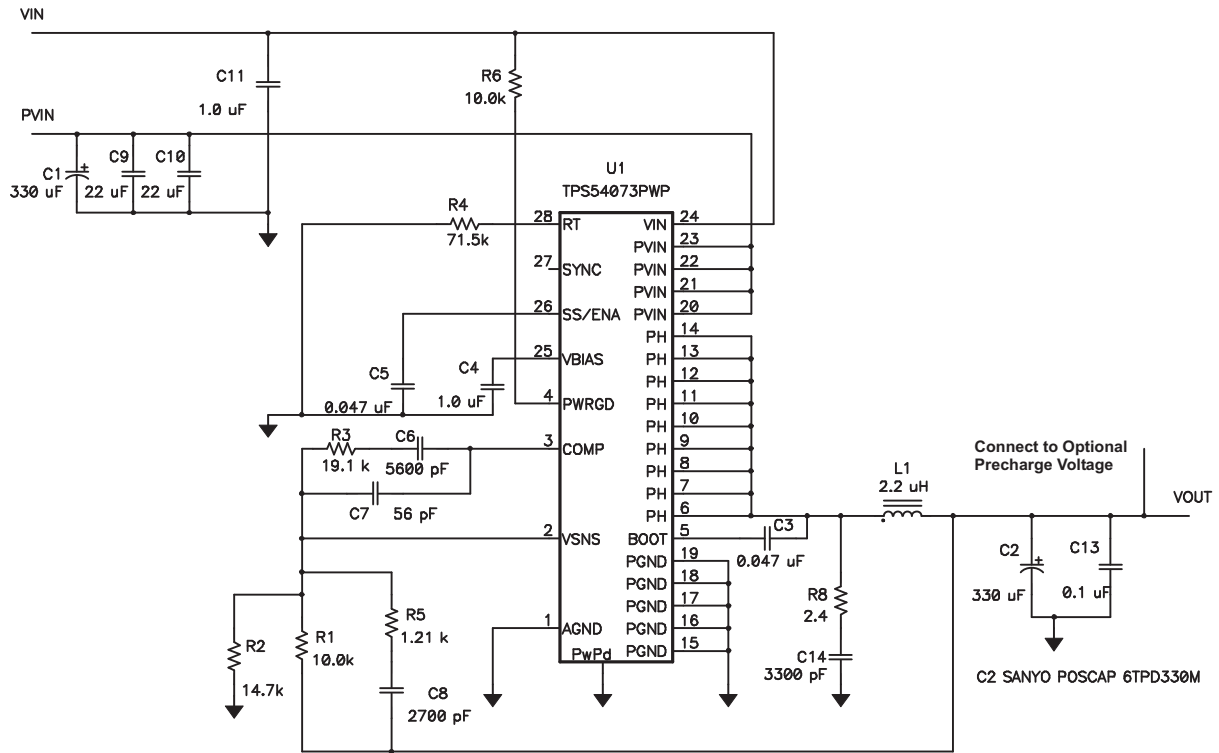

Figure 12. Application Circuit, 3.3 V to 1.5 V
- (1) Specified by design
- (2) Static resistive loads only
- (3) Specified by design
- (4) Specified by the circuit used in Figure 12
Figure 12 shows the schematic for a typical TPS54073 application. The TPS54073 provides up to 14-A output current at a nominal output voltage of 1.5 V. Nominal input voltages are 3.3 V for PVIN, and 3.3 V for VIN. For proper thermal performance, the exposed PowerPAD underneath the device must be soldered to the printed-circuit board.